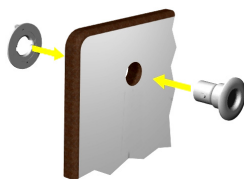

Figure 1: Pressing an insert into the support panel.
1. To install the inserts, press one plastic insert into each of the 70 holes in the three boards. The inserts should be inserted from the white side of the panel, as shown in Figure 1.